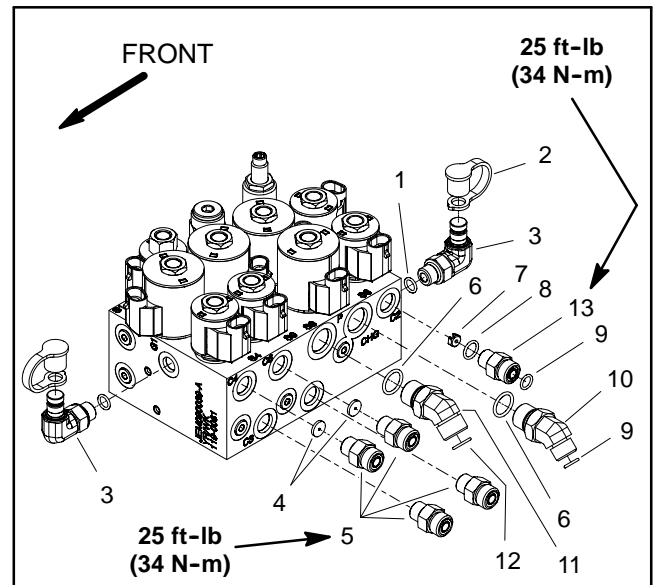

Figure 101
8. If hydraulic fittings are to be removed from control manifold, mark fitting orientation to allow correct assembly. Remove fittings from manifold and discard O-rings (Fig. 101).
1. If fittings were removed from control manifold, lubricate and place new O-rings onto fittings. Correctly place orifice in port C2, C4 or C6 if removed. Install fittings into port openings using marks made during the removal process to properly orientate fittings (Fig. 101). Tighten fittings (see Hydraulic Fitting Installation in the General Information section of this chapter).